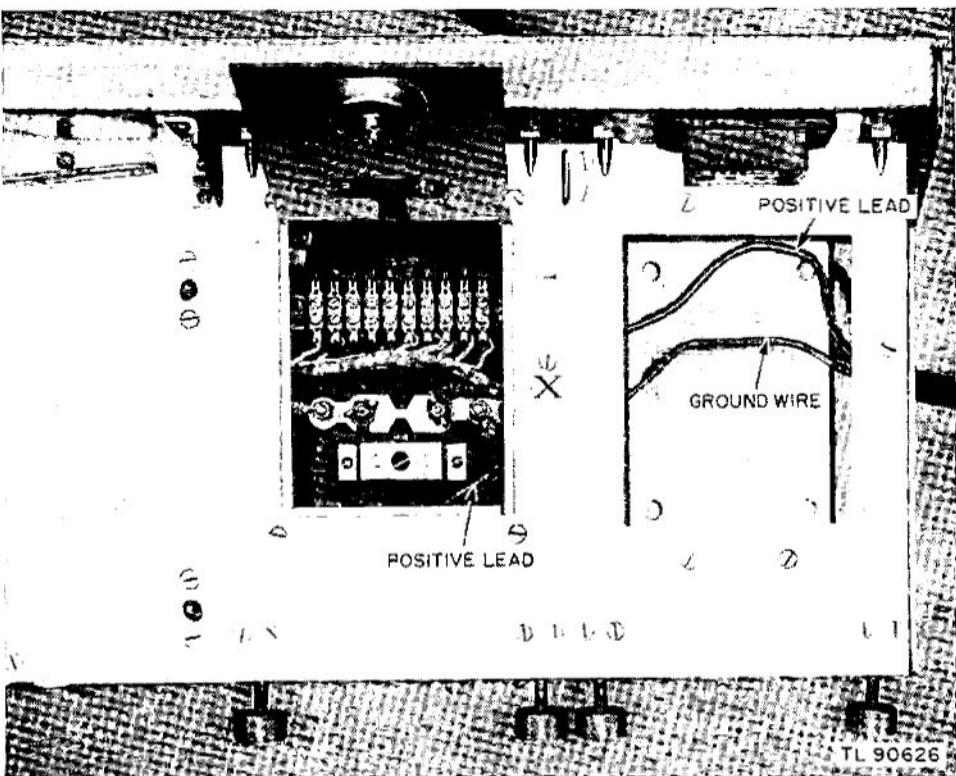

Figure 23. Transmitter base, ground connection.
a. Radio Beacon Equipment RC-163 can be installed in any vehicle having a Radio Set SCR-508-(&) or SCR-608-(&) installation and capable of accommodating the antenna array. Recommended vehicles include jeeps, half-tracks, command cars, and weapons carriers (fig. 23). If other than a recommended vehicle is used, make sure there is ample room for storage and the Adcock elements of the beacon array clear the metal sides or cab of the vehicle by at least 6 inches. This clearance is necessary to prevent antenna pattern distortion.
(2) Take the other end of Cord CD-1151 and ground the black negative lug to any convenient point on the transmitter mounting. The screw connection marked X in figure 23 makes a good point to make the ground connection.
(3) Connect the white positive wire of Cord CD-1151 to the positive battery terminal of Radio Set SCR-508-(&) or SCR-608-(&).
replace, and tighten the nut. Make the ground connection to the screw marked X in figure 23 or any other convenient point on the chassis.